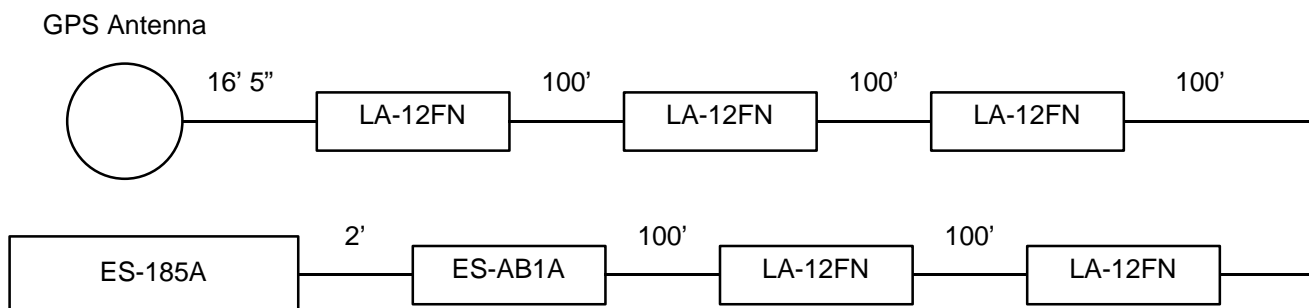

Figure 3.
Due to the power limitations of the ES-185A's receiver and antenna, only one in-line amplifier can be used. However, if a power divider such as the ES-AB1A is used, up to five (5) in-line amplifiers may be added. The more amplifiers used, the shorter the cable run between amps. See Figure 3 on page 6.